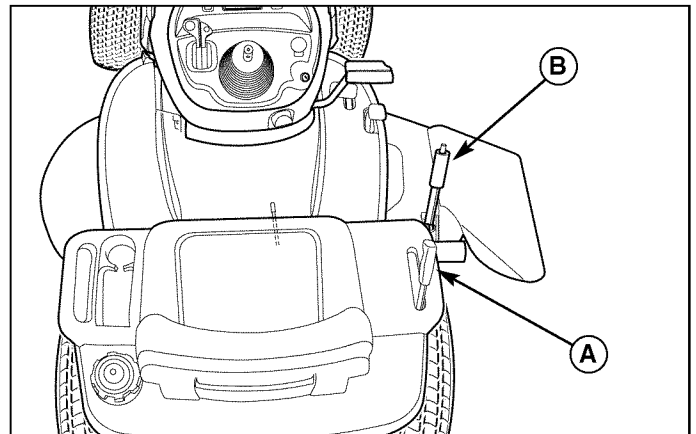

Figure 7. Raising & Lowering Mower - 40" Mowers
2. Place mower height adjuster (B, Figures 7 & 8) in the lowest cutting position. Place the mower lift lever in the lowest position, also. Slide mower deck under right side of tractor so that mower hitch is aligned with the front tractor hitch.